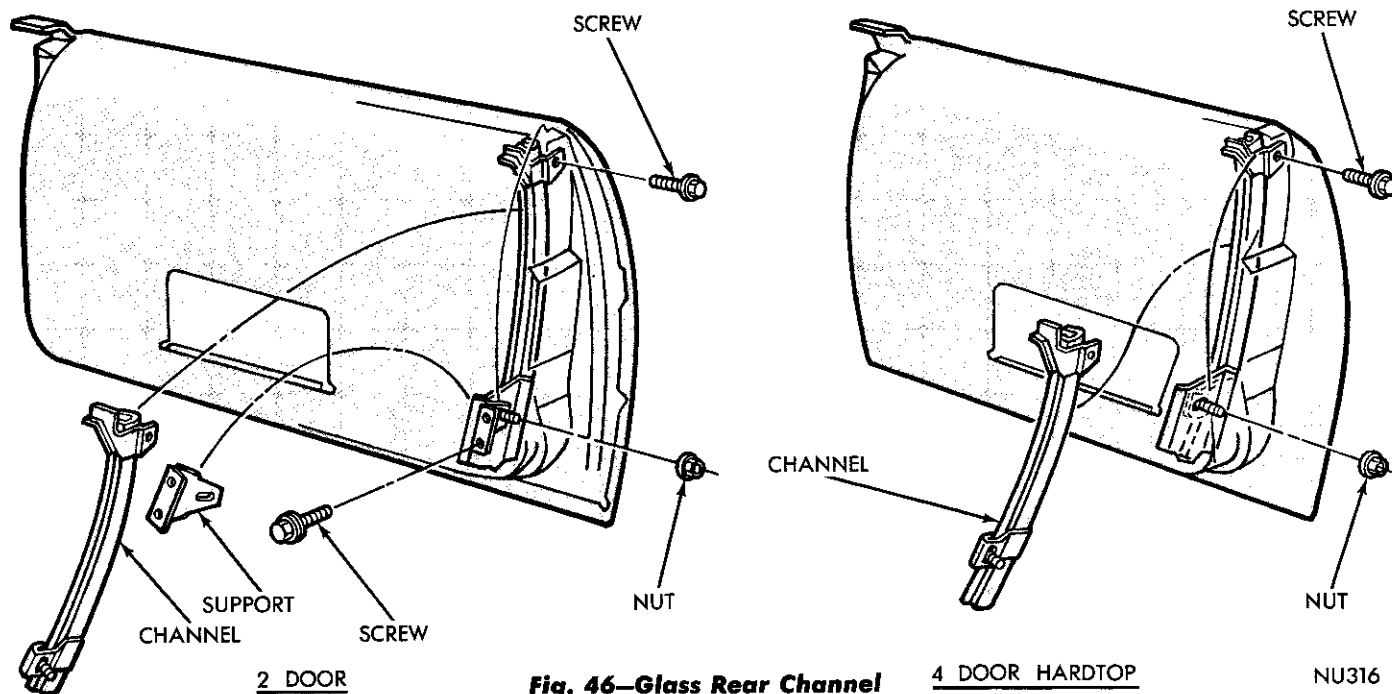

Fig. 46—Glass Rear Channel
- (1) Remove up-stop at rear channel.
- (2) Remove the door glass and vent wing assembly.
- (3) Remove channel upper support retaining screw at door lock face, inner panel support and lower support retaining nut (Fig. 46) at door.
- (4) Remove channel assembly through large access hole.
- (1) Position rear channel assembly into door through large access hole.
- (2) Align upper support to hole in door lock face and install screw loosely (Fig. 46).
- (3) Insert channel lower stud into slot of support assembly and secure with nut.
- (4) Tighten upper support screw.
- (5) Install door glass.
- (6) Install up-stop at rear channel.